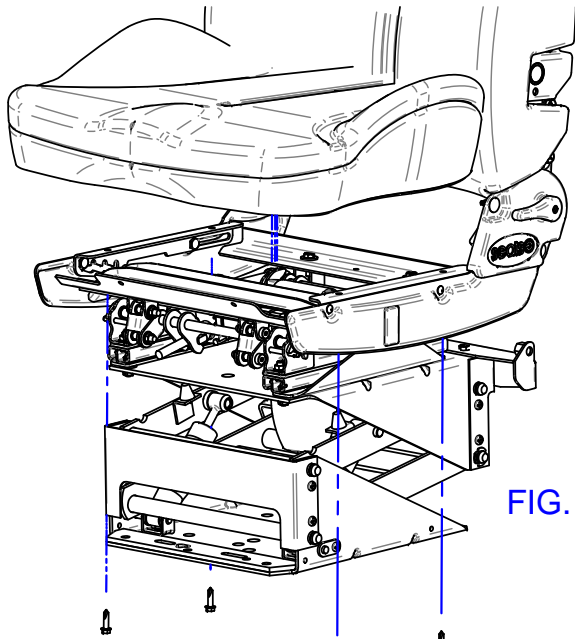

FIG. 7
10. SECURELY REATTACH CUSHION ASSEMBLY. USING (4) 1/4"-14 SCREWS. (FIG. 7)